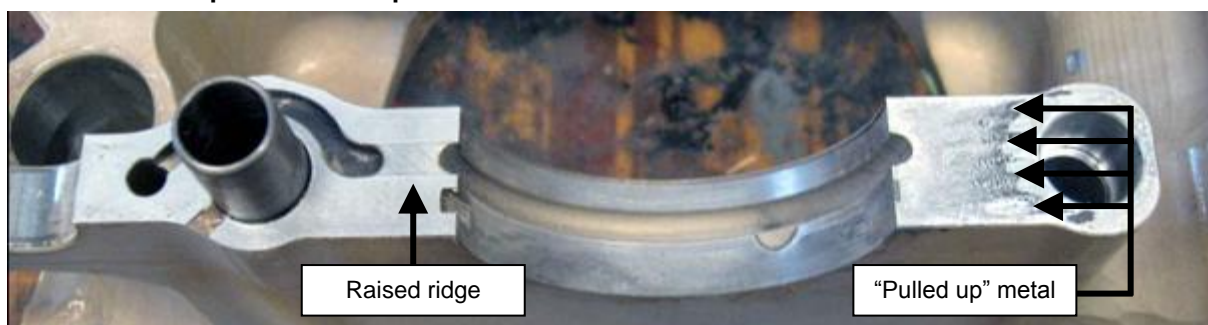

Figure 70 – Crankcase Fretting
- Inspect the cases for fretting around the main bearing posts. If fretting can be detected (either by observation and/or by feeling roughness against your fingernail across the affected area – see Figure 70) then it must be corrected by having both case halves surface skimmed and the bearing tunnels bored to the correct dimensions before return to service.